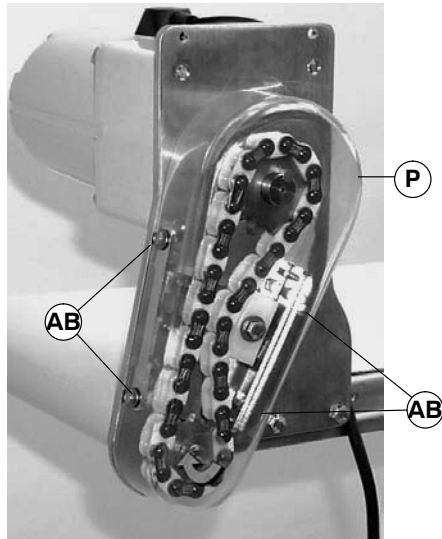

Figure 15
NOTE: Do not over-tighten screws (AB of Figure 15).
8. Install cover (P of Figure 15) and tighten four screws (AB) to 35 in-lb (4 Nm).